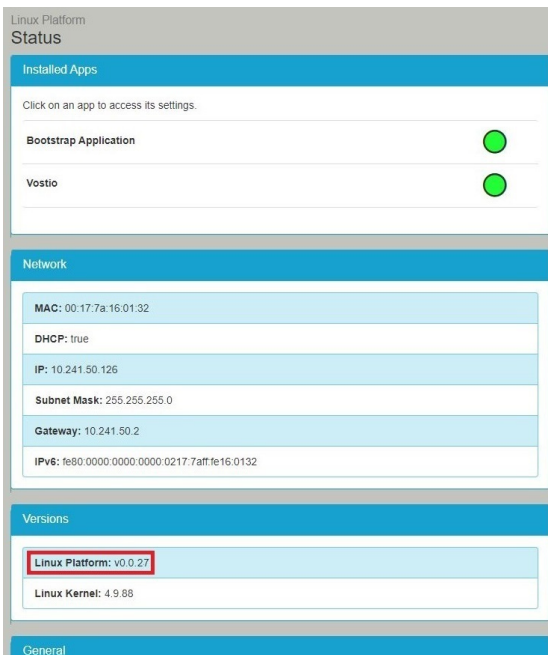

Figure 51
1. The Linux firmware version is shown on the Linux platform **Status** page, under **Versions**; see 'Linux Platform' in the lower part of Figure 51. The **Status** page is shown directly when you log in to the web interface, and can also be reached by clicking **Status** in the menu bar of the web interface.